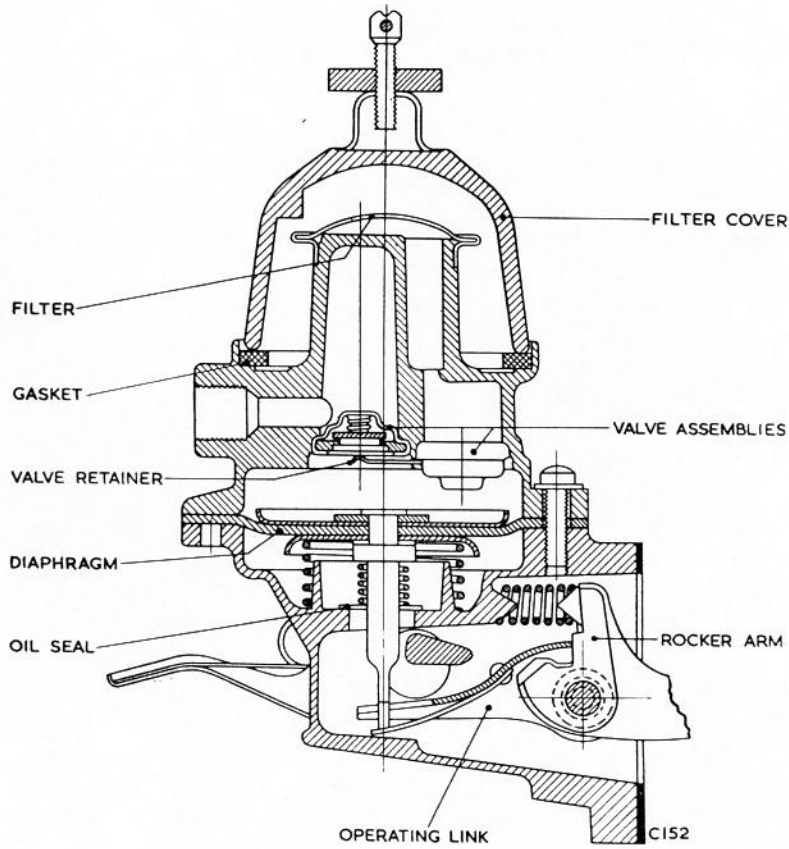

Fig.1 Petrol pump.
1. Remove the six cheese-head screws holding the halves of the body together. The valves and seat assemblies are in the upper half, and the diaphragm and its attendant linkages in the lower half, see Fig.1.
5. Beneath the diaphragm are two springs; the larger controls the petrol pressure feed to the carburettors and the smaller holds the oil seal in place, see Fig.1. Remove the springs and seal which consists of a fabric washer and a cup-shaped seal retainer.
3. With the upper half of the pump inverted, fit a new valve gasket, followed by the two valve assemblies, THE CORRECT WAY UP, see Fig.1. Fit the valve retainer and secure with its two counter-sunk head screws.